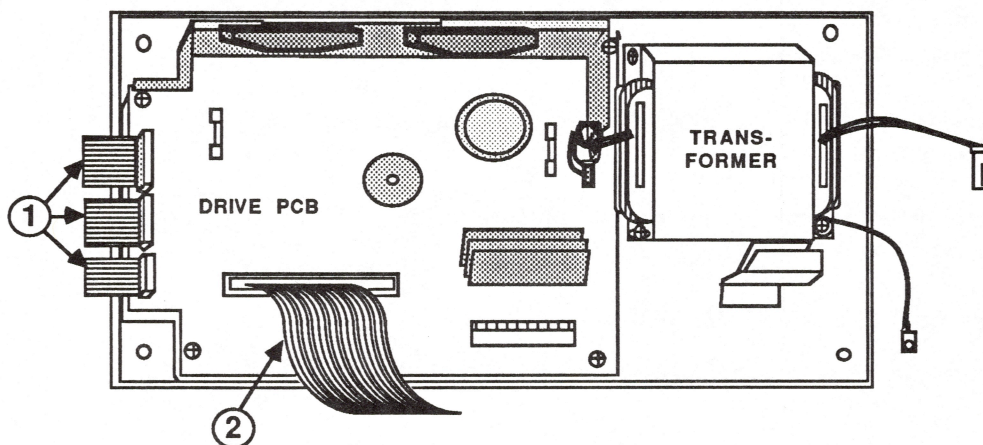

FIGURE 18
9. Using a small flathead screwdriver, gently pry up the left side of the bottom cover. Lift the left side of the access cover about 3 inches -- until you can reach the three connectors located on that side of the board. Disconnect the three connectors. (See Figure 18, #1.)
10. Lift the front half of the bottom cover and disconnect the large gray ribbon cable connector (see Figure 18, #2).